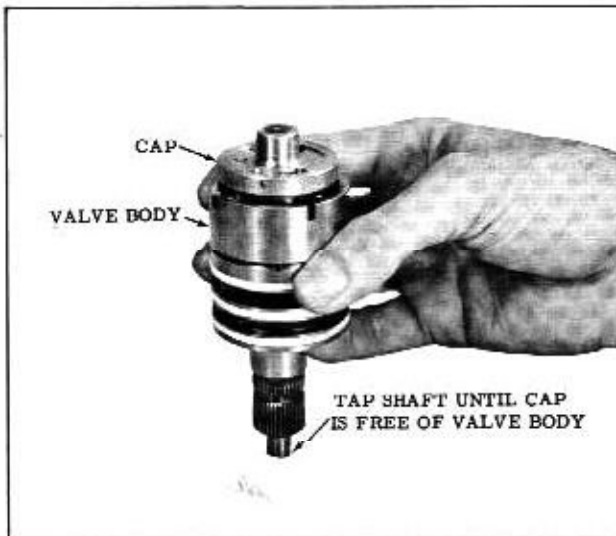

Fig. 4-15 Freeing Shaft Cap
- a. While holding the assembly (lower shaft down), lightly tap the lower shaft against the bench until the shaft cap is free from the valve body. (Fig. 4-15) The spool valve